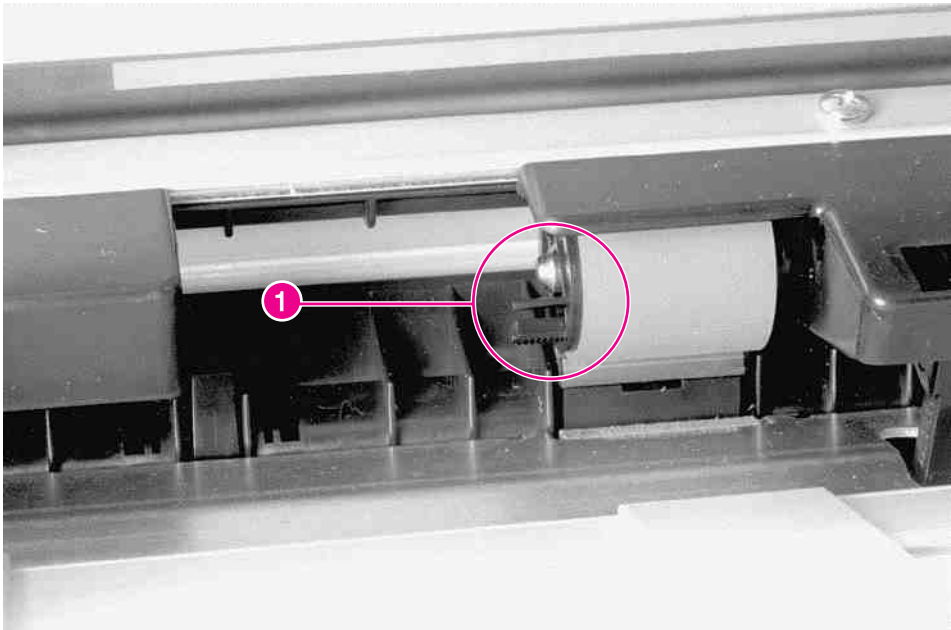

Figure 6-54 **Tray 1 Feed Roller**
- 2 Pinch the retainer tabs together (figure 6-54, callout 1), and slide the roller to the left off of the shaft.